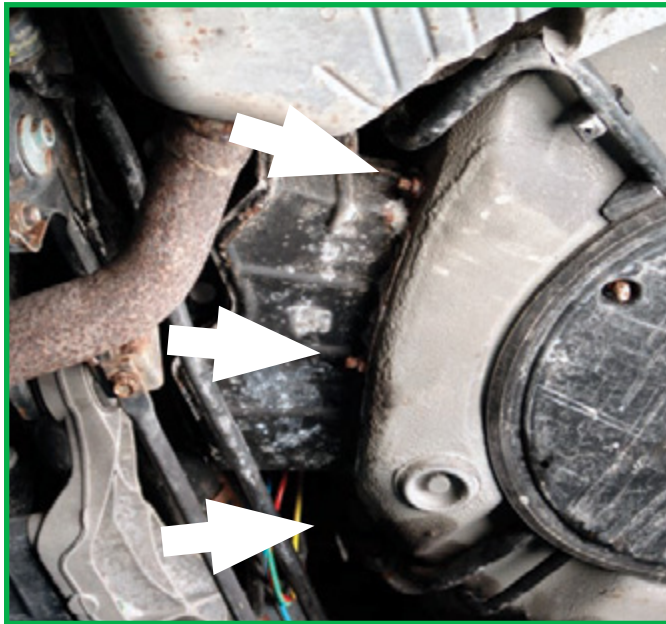

FIGURE 2
2. Remove the protective cover from the underside of the compressor via the three mounting studs. (Figure 2)